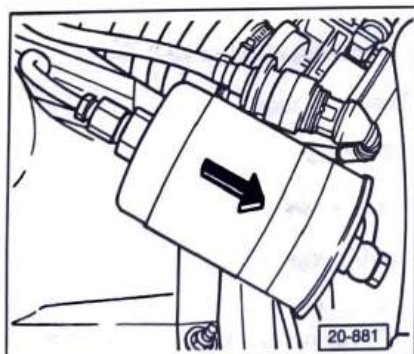

Fig. 2 Fuel filter installation position
- ♦ Installation position of fuel filter ⇒ Fig. 2